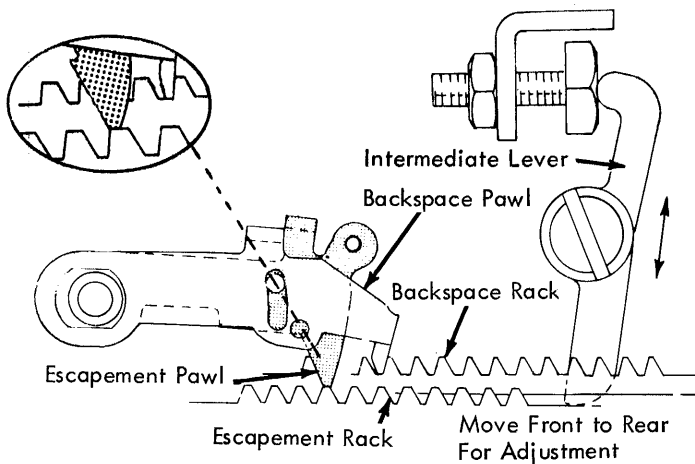

FIGURE 201. Intermediate Lever Adjustment (Late Level)
4. Intermediate Lever (Late Style - Identify by presence of C-5 auxiliary cam follower) - With the backspace cam manually operated to the high point, the escapement pawl should just fail to drop into the preceding rack tooth causing the manual backspace operation to fail. Adjust the intermediate lever pivot screw forward or back in its elongated mounting hole to obtain this condition (Fig. 201).